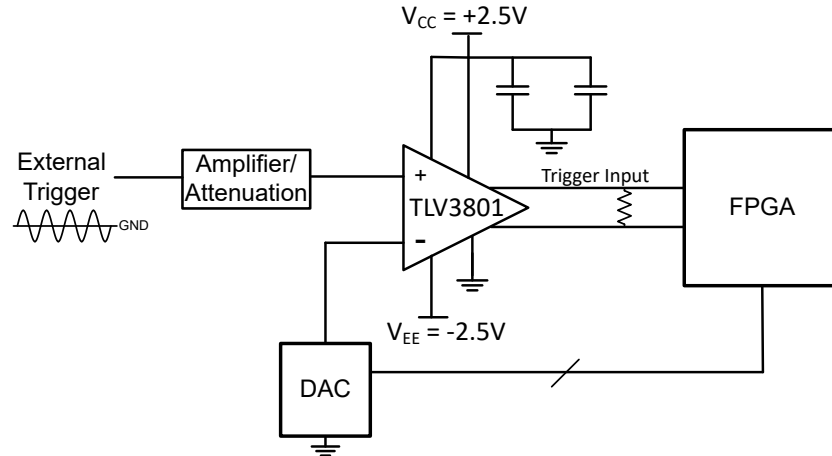

Figure 8-6. External Trigger Function
Figure 8-6 is a typical configuration for creating an external trigger on oscilloscopes. The user adjusts the trigger level, and a DAC converts this trigger level to a voltage the TLV380x/TLV3811(C) can use as a reference. The input voltage from an oscilloscope channel is then compared to the trigger reference voltage, and the TLV380x/TLV3811(C) sends an LVDS signal to a downstream FPGA to begin a capture. It is common to see bipolar inputs in test and measurement systems such as oscilloscopes; therefore, the TLV380x can be configured in split supply so that the inputs are in the allowable input voltage range.